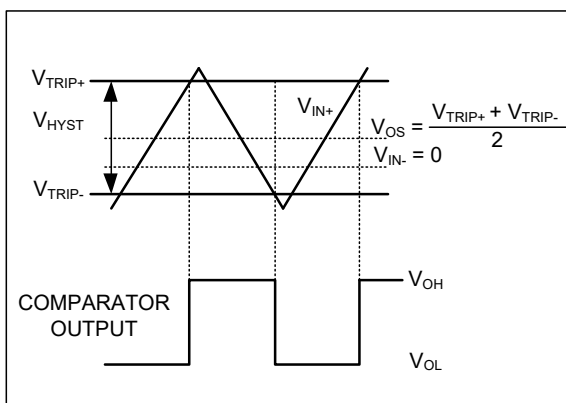

Figure 1. Input and Output Waveform,
3. VOS is defined as the center of the input-referred hysteresis zone. See Figure 1.
4. The input-referred trip points are the extremities of the differential input voltage required to make the comparator output change state. The difference between the upper and lower trip points is equal to the width of the input-referred hysteresis zone. See Figure 1.
The hysteresis in a comparator creates two trip points: one for the rising input voltage and one for the falling input voltage (Figure 1). The difference between the trip points is the hysteresis. The average of the trip points is the offset voltage. When the comparator's input voltages are equal, the hysteresis effectively causes one comparator input voltage to move quickly past the other, thus taking the input out of the region where oscillation occurs. Standard comparators require hysteresis to be added with external resistors. The SGM8746's fixed internal hysteresis eliminates these resistors. To increase hysteresis and noise margin even more, add positive feedback with two resistors as a voltage divider from the output to the non-inverting input.
Figure 1 illustrates the case where  $IN-$  is fixed and  $IN+$  is varied. If the inputs were reversed, the figure would look the same, except the output would be inverted.